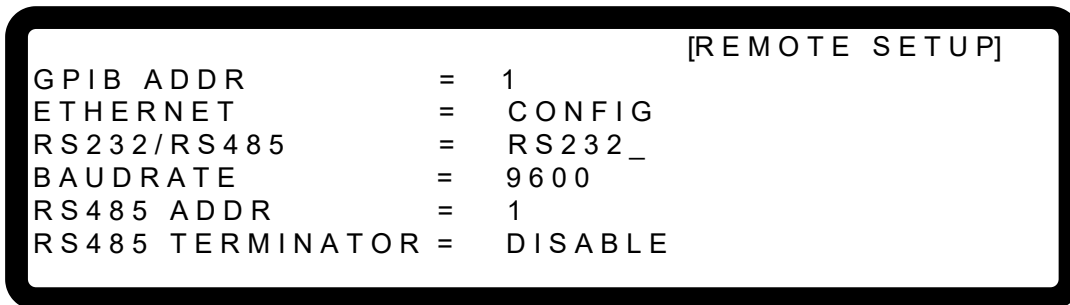

Figure 3-130
- Use "←↑", "↓→" keys to move the cursor to the column of RS232/RS485 as Figure 3-130 shows.